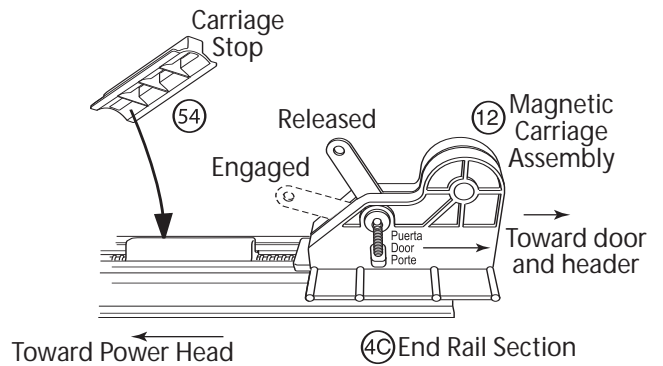

Figure 12 Slide Magnetic Carriage onto Rail
- A Slide the Carriage Stop into slot on End Rail (Figure 12).